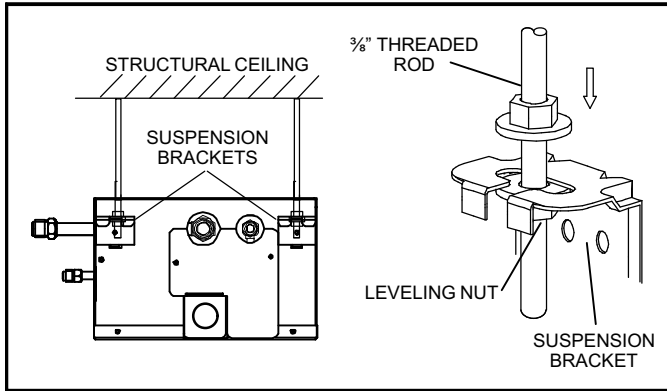

Figure 2. Suspension Hardware
- 4 - Raise the branch box and insert the threaded rods into the suspension brackets. Slide a washer and then a nut onto each rod below each suspension bracket. Use the leveling nut (beneath suspension bracket) to adjust the branch box. Remove the electrical tape holding the upper washers and nuts in place and tighten each of the four nuts above the brackets down onto the brackets. This will ensure that the branch box remains level. See figure 2.